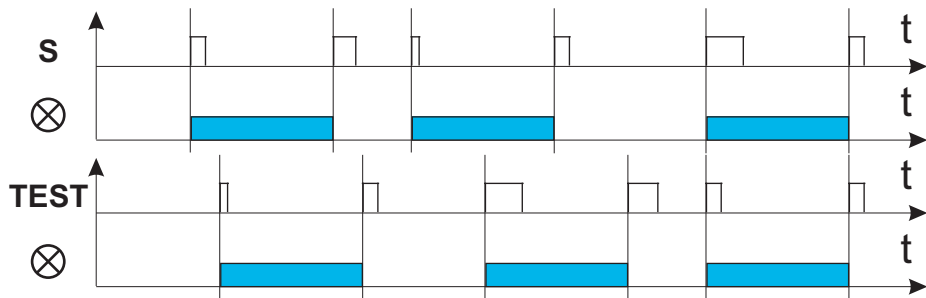

Fig. 1. Schematic diagram of the operating principle of the BISTABLE RELAY BR-10.
8. A schematic diagram of the operation of the BISTABLE RELAY BR-10 is shown in Fig. 1.